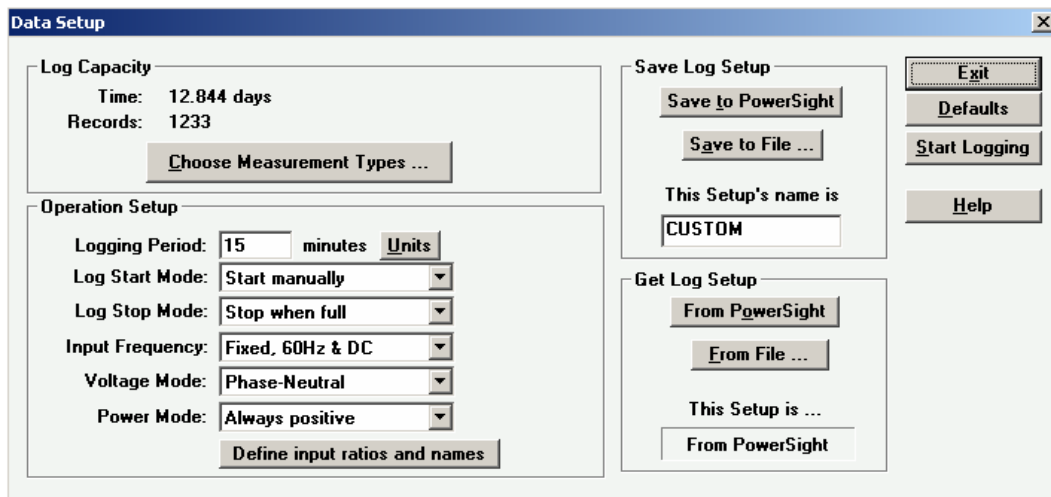

Figure 5: Data Setup Screen
3. Select a *Logging Period* in the *Data Setup* screen (figure 5). This is the frequency at which the logger will record a time-stamped data point for each chosen measurement